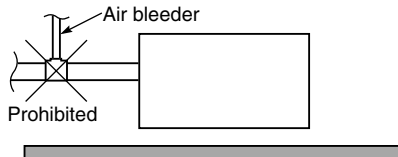

Fig. 3-65-1
- Do not install an air bleeder as this may cause water to spray from the drain pipe outlet. (Fig. 3-65-1)